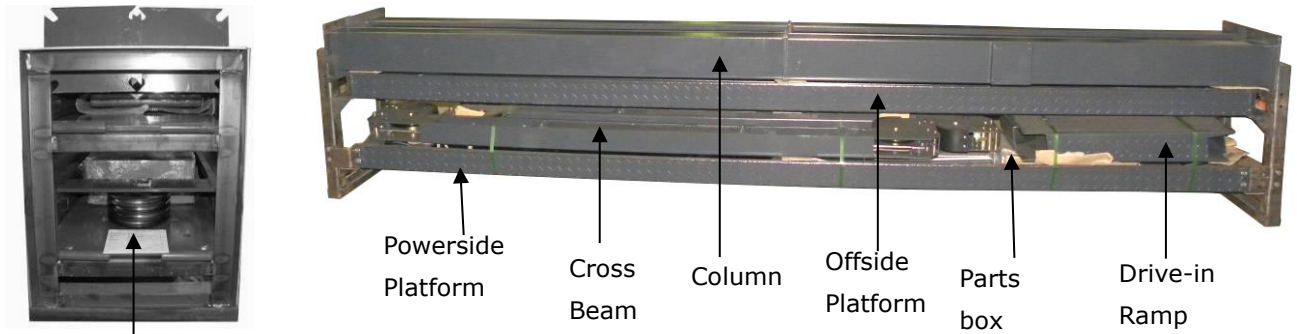

Fig.5
2. Open the outer packing carefully, check the parts according to the shipment list. (See Fig. 5).